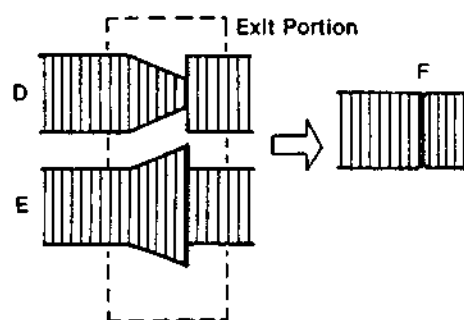

Fig. 2-20
- If the FM envelope appears like example "D" or "E" in Fig. 2-20, then adjustment of the tape guide post (P3: Exit) is necessary.
- Adjust the tape guide post (P3) in the same manner as the P2 post so that the exit portion becomes flat as shown in Fig. 2-20.